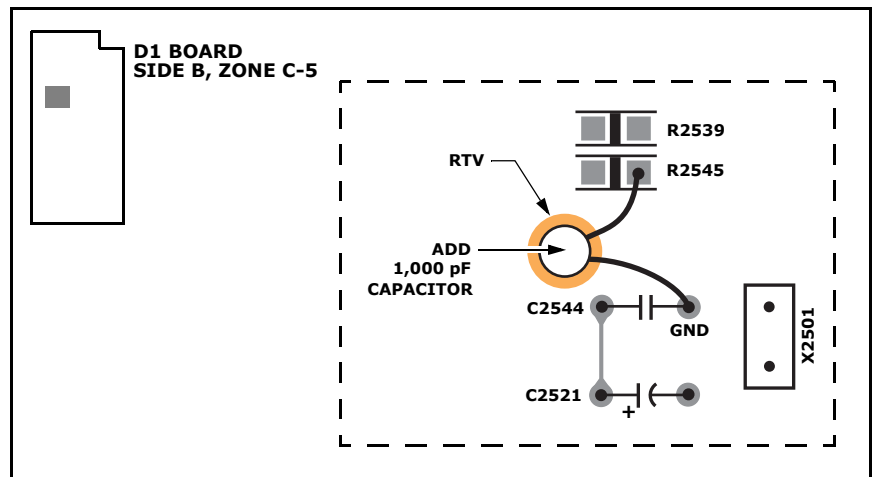

Figure 1
1. Add a 1,000 pF capacitor between ground and the junction of R2545 and C2513 (1 μ F/10V) of the input to IC2504. (See Figure 1.)